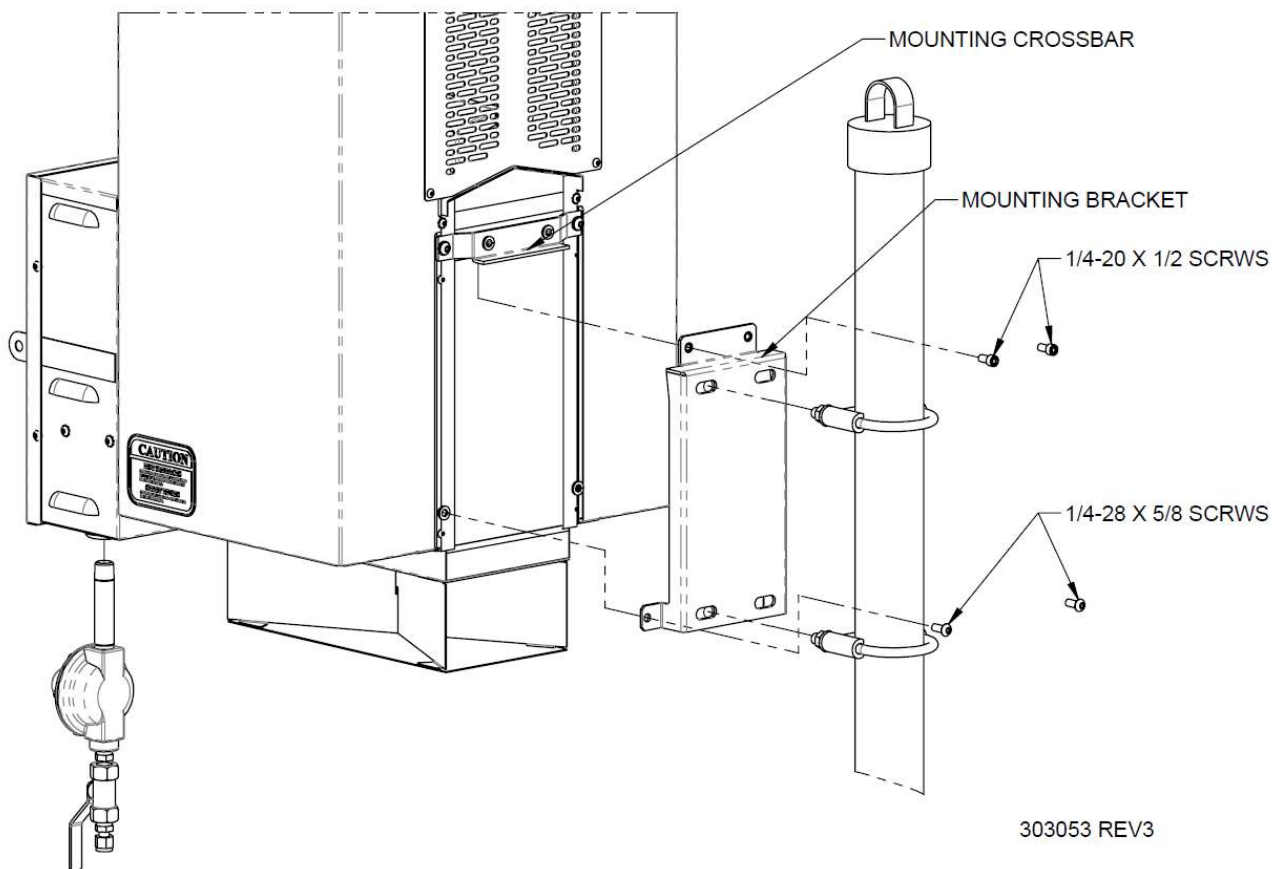

Figure 6 – Mounting the Sentinel TEG
The Sentinel TEG comes with a mounting bracket to easily attach the main assembly to a pole or wall. Separate this mounting bracket, with the supporting plywood, from the back of the Sentinel TEG by removing the four machine screws (Refer to Figure 6, two short 1/4-20 x 1/2 screws are fastened on the mounting crossbar, and two long 1/4-28 x 5/8 screws are fastened on the other end of the mounting bracket). Keep these 4 machine screws for mounting.
2. Attach the Sentinel to the mounting bracket by sliding the mounting crossbar over the mounting bracket tap, as shown in Figure 6 ensuring that the Sentinel is in an upright vertical position.
4. Refer to Figure 6, secure the Sentinel TEG to the mounting bracket by replacing those 4 machine screws.